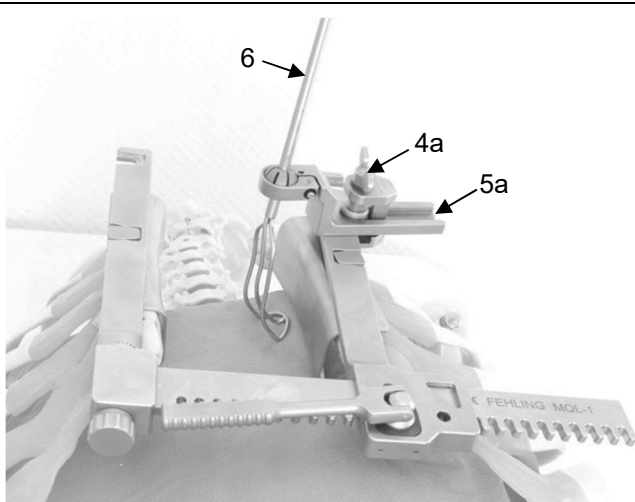

Fig. 9: Configuration example for the CEBOTARI universal sternal retractor with an atrial retractor
Atrial retractors (6) (see Table 2, Page 9) can be positioned anywhere on the retractor arms (Fig. 9) (including the area of the blades) using clamping element MZZ-1Q (4a) as well as a suitable ball adapter (5a).